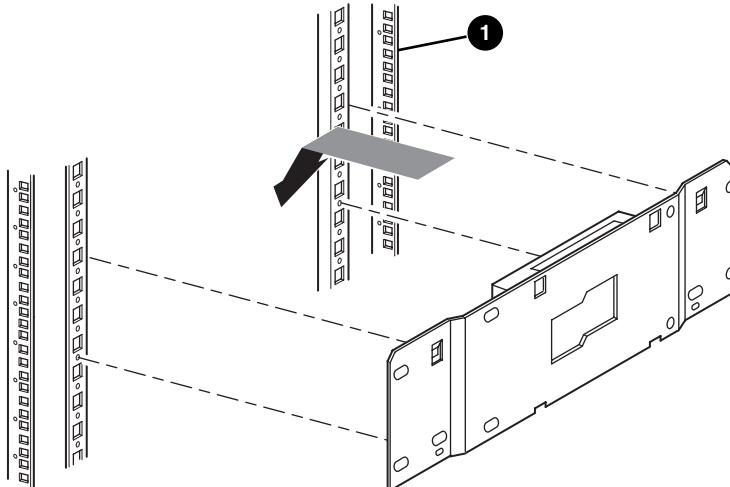
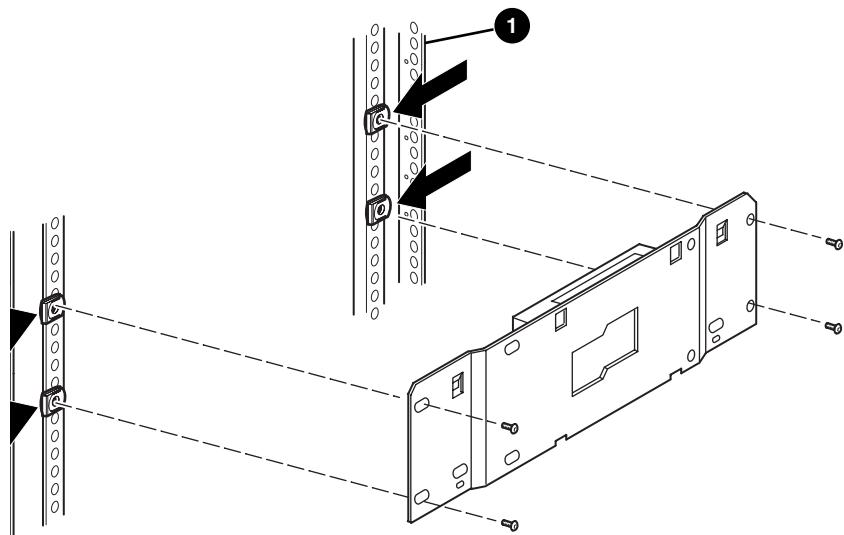

Figure 1: Installing the LAN hub into a standard 7000/9000/10000 rack enclosure
Figure 4: Installing the LAN hub into a system/e rack
1. Install cage nuts/clip nuts as indicated in Figure 1 through Figure 4.